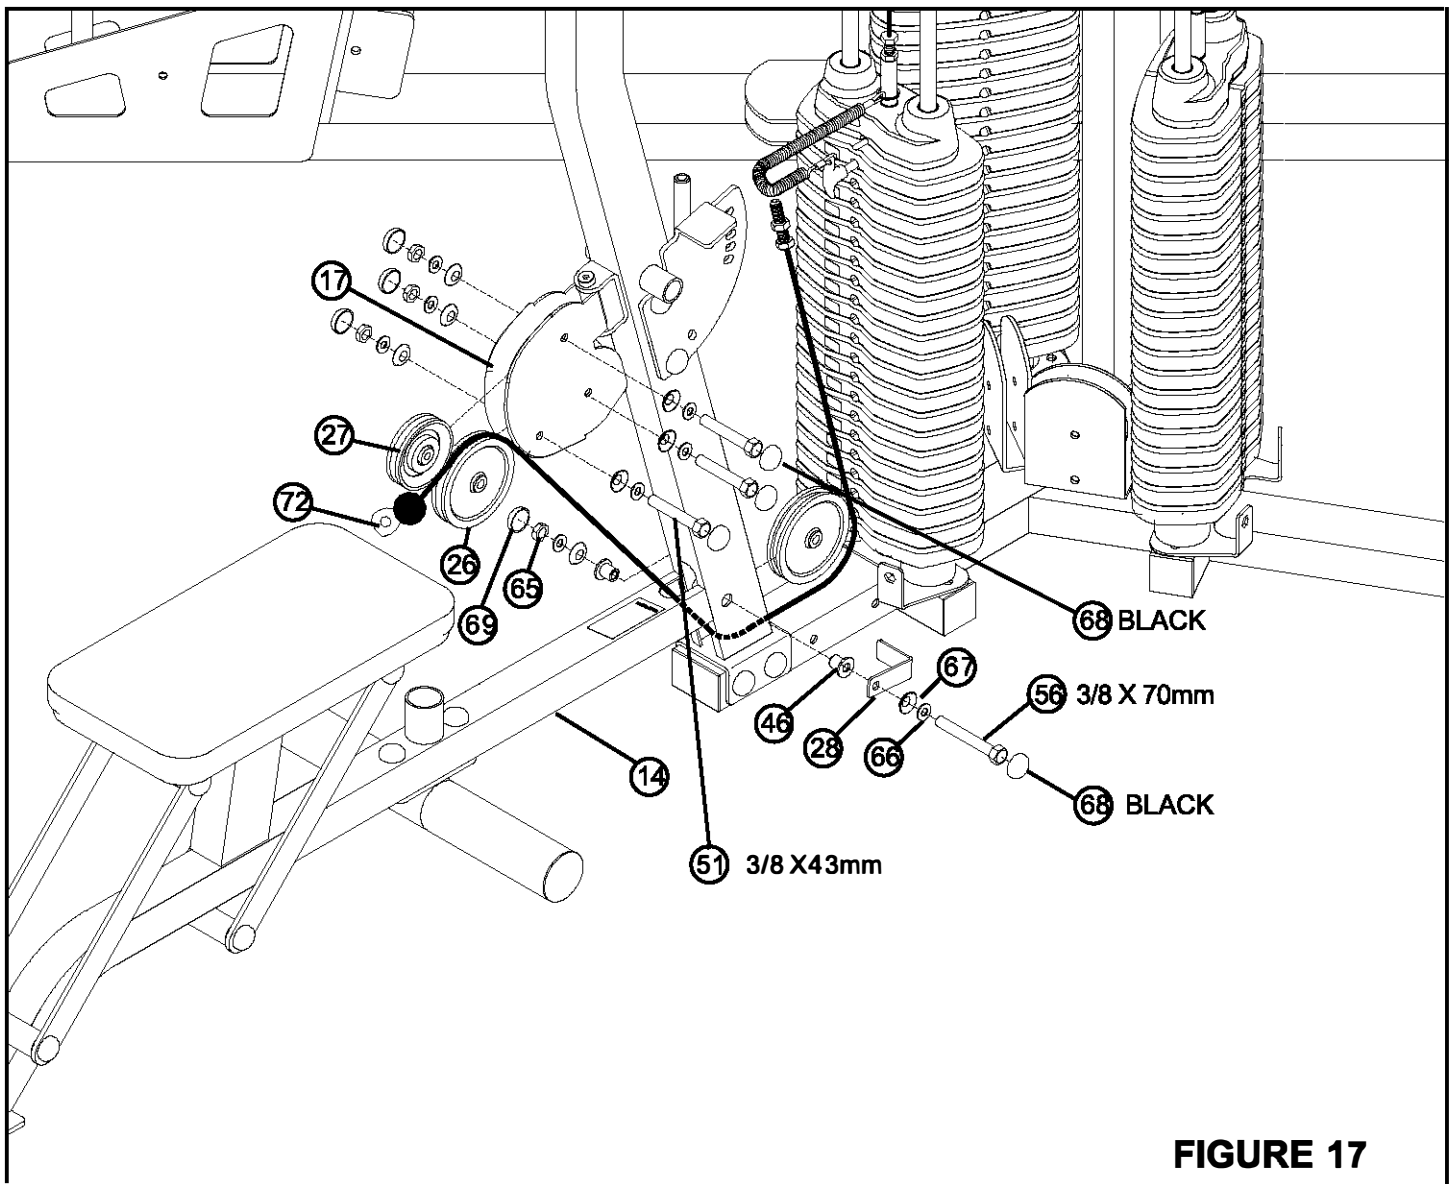

**FIGURE 16**
- Route the LAT CABLE (71) through the LAT/LOW BOOM (11) and assemble two 4-1/2" PULLEYS (26) to the BOOM (11) using two BLACK RH CAPS (68), two RH CAPS (69), two 3/8" X 70mm BOLTS (56), four 3/8" SAE WASHERS (66), four 3/8" RH WASHERS (67), two 2-7/8" X 2-1/4" CABLE CLIPS (28), four 3/8" X 1/2" FLANGE SPACERS (46) and two 3/8" LOW HEIGHT LOCK NUTS (65) as shown in FIGURE 16.
- Slide one WEIGHT STACK PIN (38) over the stem on the HEAD PLATE (36) as shown in FIGURE 16.
- Screw the threaded end of the LAT CABLE (71) all the way onto the end of the stem on the HEAD PLATE (36) and tighten jam nut securely. See FIGURE 16.